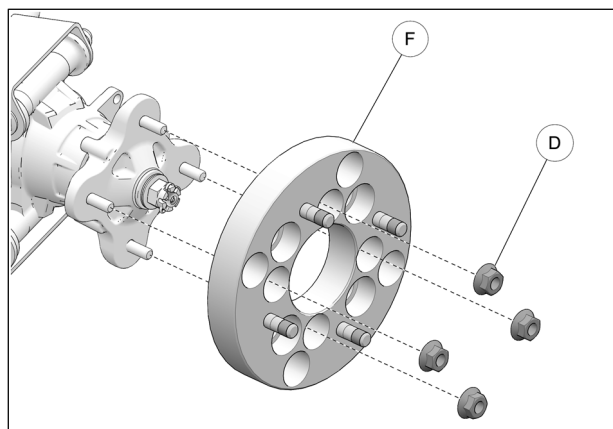

Fig. 14
6. Install the 1-in (25mm) thick spacer (F) on the hub. Use flange nuts M10x1.25 (D) supplied. Refer to Fig. 14